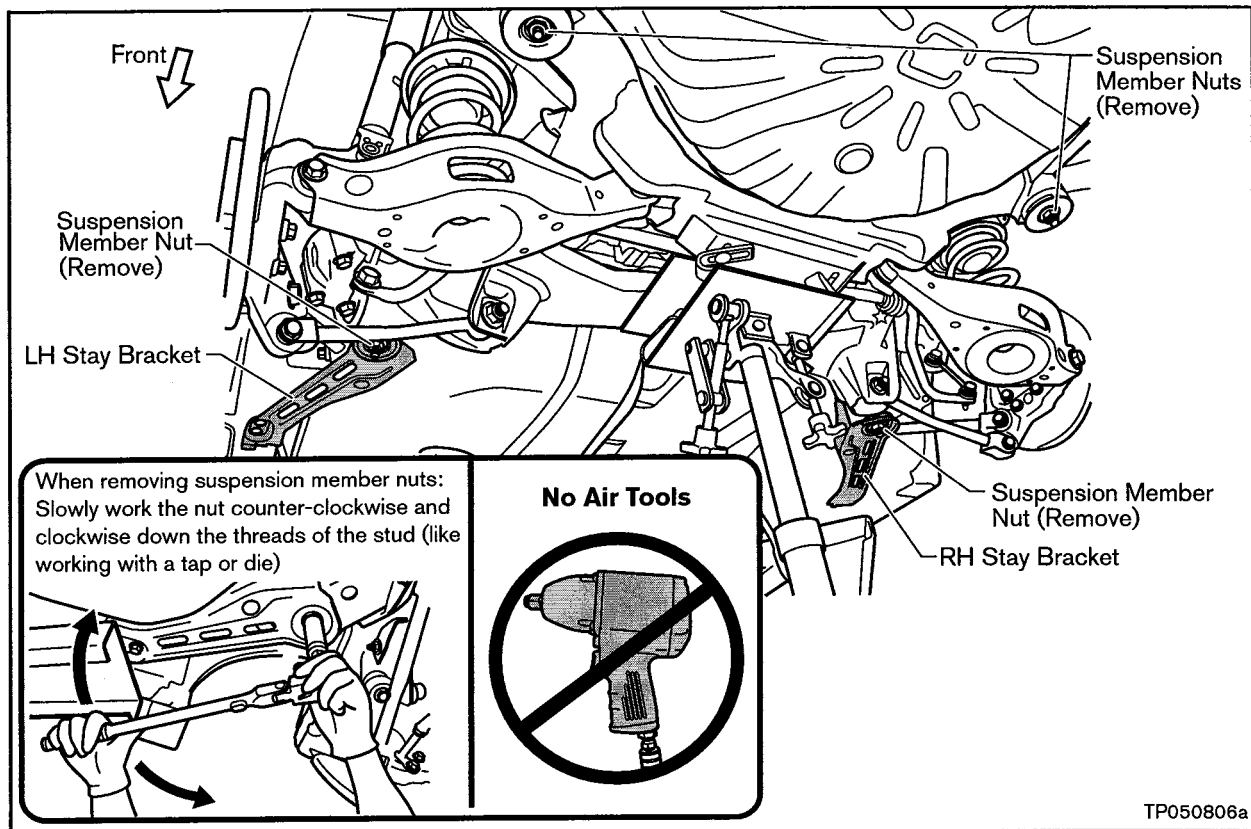

Figure A18
12. Remove the four main suspension member mounting nuts and the LH/RH stay brackets (see Figure A18).